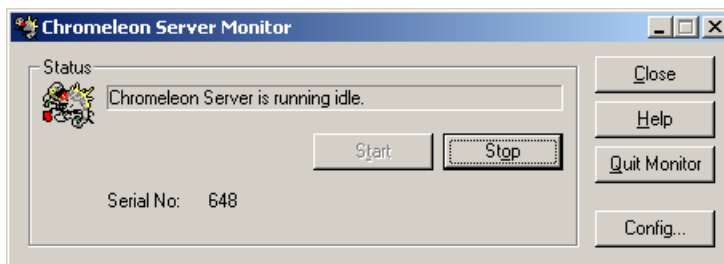

Figure 8. Server Running
8. Check the Server Monitor status. It should now display “Chromeleon Server is running idle.” (see Figure 8).